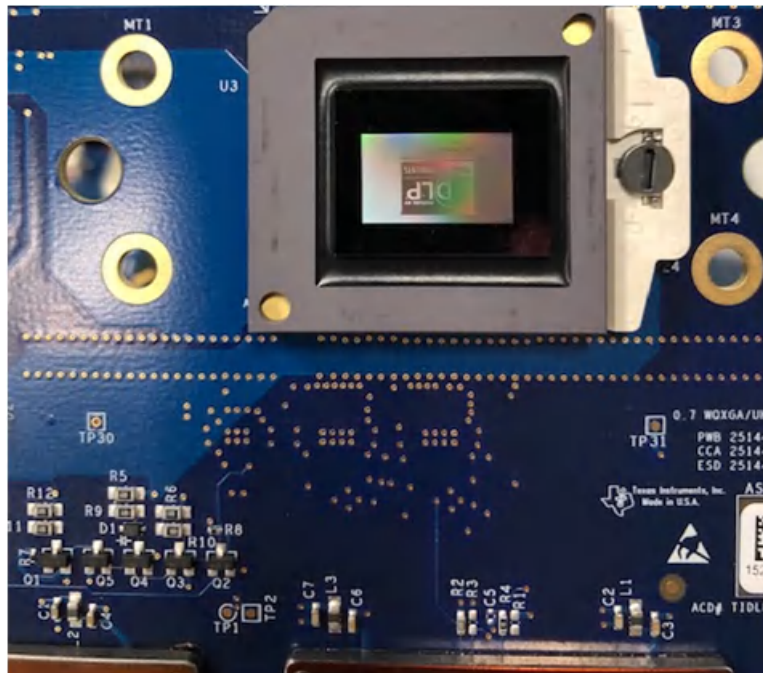

Figure 2-13. Splash Image Displayed on DMD
- f. After removing the jumper, re-enable power to the DLPC4430EVM. Switch SW1 to the “On” position. A Red LED appears after a few seconds. The Red LED shuts off and a green LED begins blinking. After the blinking LED appears, the DLP Texas Instruments logo is visible on the DMD for a few seconds. The DMD appears as seen in Figure 2-13: